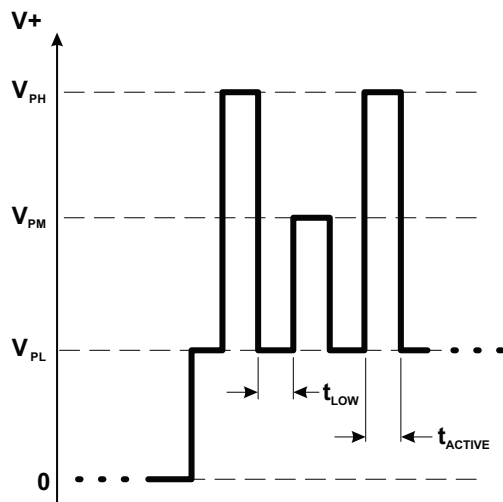

Figure 7: Parameter Selection Pulse Train
Each programmable mode/parameter can be accessed through a specific register. To select a register, a sequence of voltage pulses consisting of a  $V_{PH}$  pulse, a series of  $V_{PM}$  pulses, and a  $V_{PH}$  pulse (with no  $V_{CC}$  supply interruptions) must be applied serially to the VOUT pin. The number of  $V_{PM}$  pulses is called the key, and uniquely identifies each register. The pulse train used for selection of the first register, key 1, is shown in Figure 7.